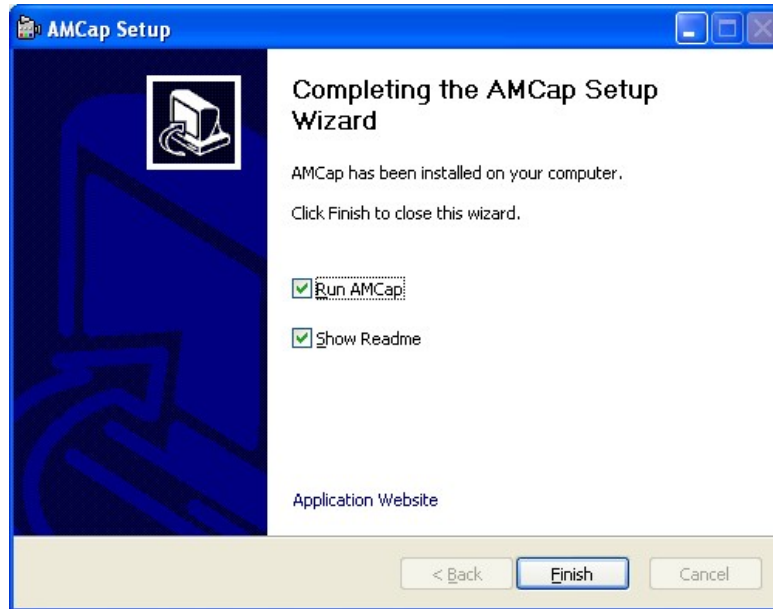

Figure 7-29: AMCap Driver Installation Complete
Step 9: When the driver installation is complete, the screen in **Figure 7-29** appears.